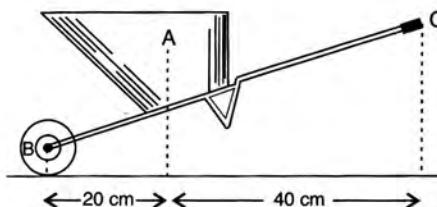

Fig. 3.18
10. Fig. 3.18 below shows a wheel barrow of mass 15 kg carrying a load of 30 kgf with its centre of gravity at A. The points B and C are the centre of wheel and tip of the handle such that the horizontal distance AB = 20 cm and AC = 40 cm.